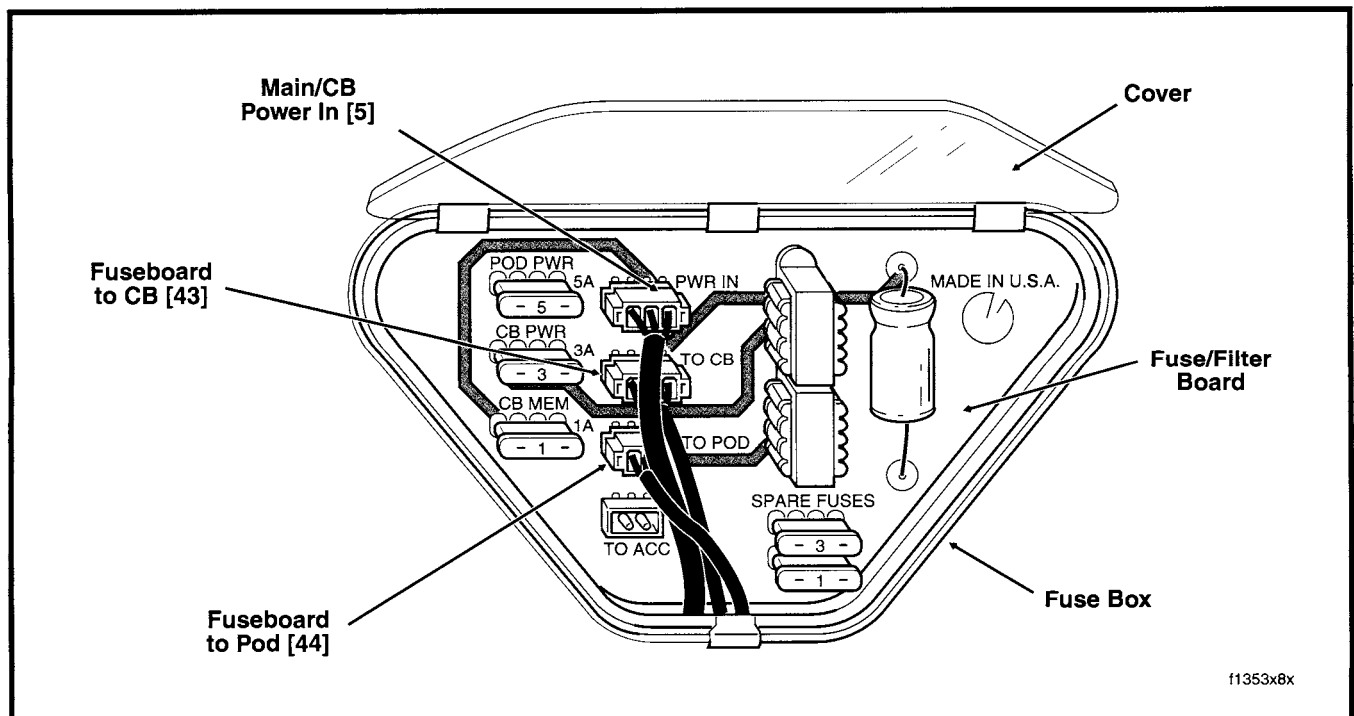

Figure 45. Fuse Box - Under Left Side Cover
3. Fuse/filter panel ground	Measure continuity to ground from ground bolt above starter to Pin 2 (BK/GN wire) on the CB Power In connector [5] on the fuse/filter board. See Figure 45. Meter must indicate 0.5 ohms or less.